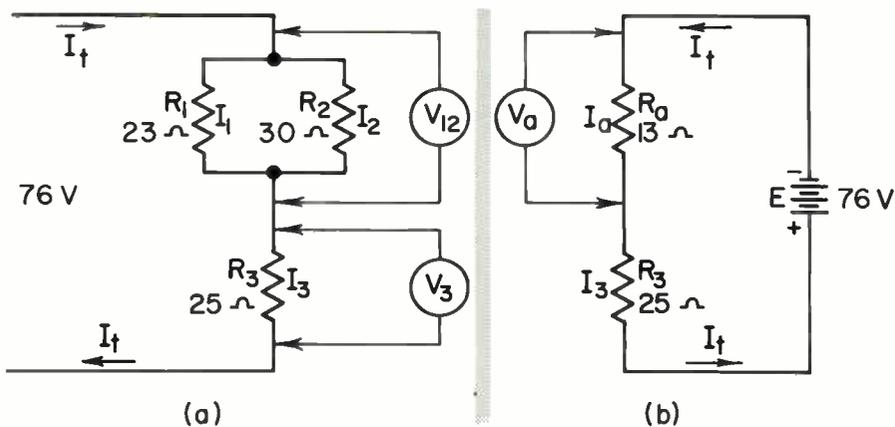

Fig. 2 Voltmeters V_{12} and V_a read the same, because the two circuits are equivalent to R_a (equal to R_1 and R_2 combined).
Example 2 . . . In Fig. 2(a), the total current I_t is (a) _____ A (amperes); voltmeter V_{12} reads (b) _____ V (volts); voltmeter V_3 reads (c) _____ V; the voltage across R_1 is (d) _____ V, and the voltage across R_2 is (e) _____ V. The current I_1 through resistor R_1 is (f) _____ A, and current I_2 is (g) _____ A.
- 4 (b) Figure 2(b) shows the equivalent circuit to the circuit in Fig. 2(a). Now, since R_a is equal in value to R_1 and R_2 combined, voltmeters V_{12} and V_a will read the same, since they're across equivalent values. By Ohm's law then, the voltage E_a (which is the reading of V_a) is